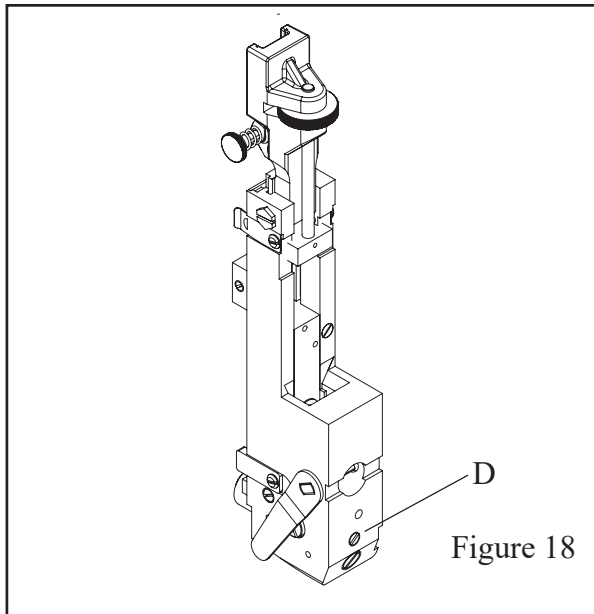

Figure 18
### **C. Head/Clincher Alignment (Figure 18, 19)**
1. To adjust for front-to-rear alignment: (Fig. 18)